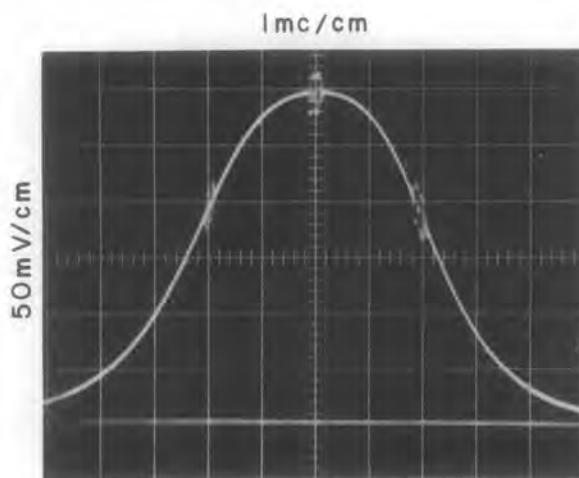

Figure 4-19. Typical Response, 60-21.4 mc Converter
- (4) Set the receiver controls as follows:
- (5) Tune the signal generator to 60.0 mc cw. Adjust the output level for a convenient marker size throughout the following procedure.
- (6) Readjust the controls on the sweep generator to display the marker and the response on the oscilloscope.
- (7) Adjust A6L1 for a response centered on the 60.0 mc marker.
- (8) Adjust A6L3 and A6L4 for a maximum amplitude double-tuned response centered on the 60.0 mc marker. Refer to Figure 4-19 for a typical response.